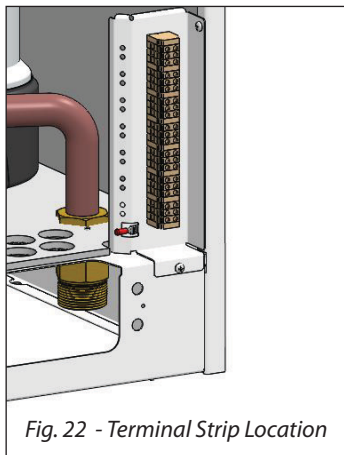

Fig. 22 - Terminal Strip Location
1. Connect the external monitoring device to the line voltage terminals located internally in the lower right corner, as shown in *Fig. 22 on page 35*.
1. Connect the room thermostat or dry contact zone valve end switch wires to low voltage terminals X6-3&4 or X5-5&6 located at the bottom of the ACVMax control module as shown in *Fig 22 below*.